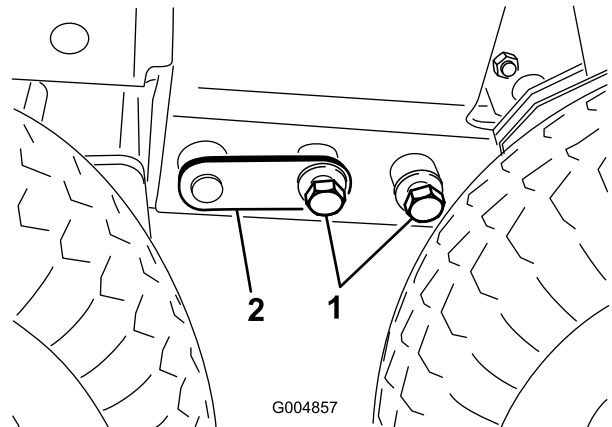

Figure 79
19. Remove the (2) 3/4" diameter bolts that attach the front frame to the rear frame ahead of the drive tire from each side of the frame (Figure 79). **DO NOT REMOVE THE COUPLER PIN AT THIS TIME.**